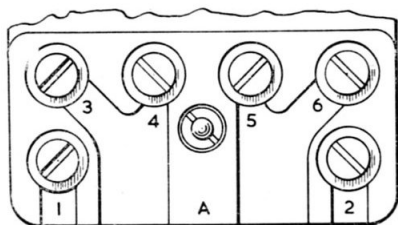
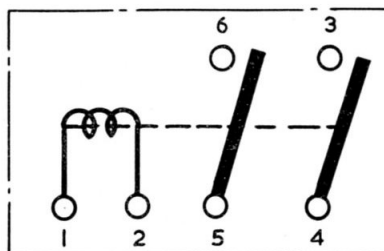

Fig. 3. Terminal arrangement
Fig. 4. Circuit diagram
3. The mechanism is mounted on a base plate of moulded insulating material, with separate covers for the terminals and the electro - magnet assembly. The terminal arrangement is shown in fig. 3, and a circuit diagram in fig. 4.